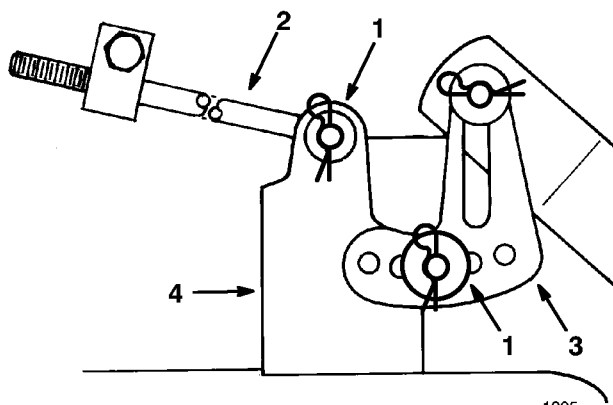

Figure 50
5. Remove the hair pin cotter and washer from the leveling bracket (Fig. 50). To level the blade(s), reposition the leveling bracket in a different hole and install the washer and hair pin cotter. (Fig. 50). A front hole lowers the blade height and a rear hole raises its height. Repeat this procedure on the opposite side.